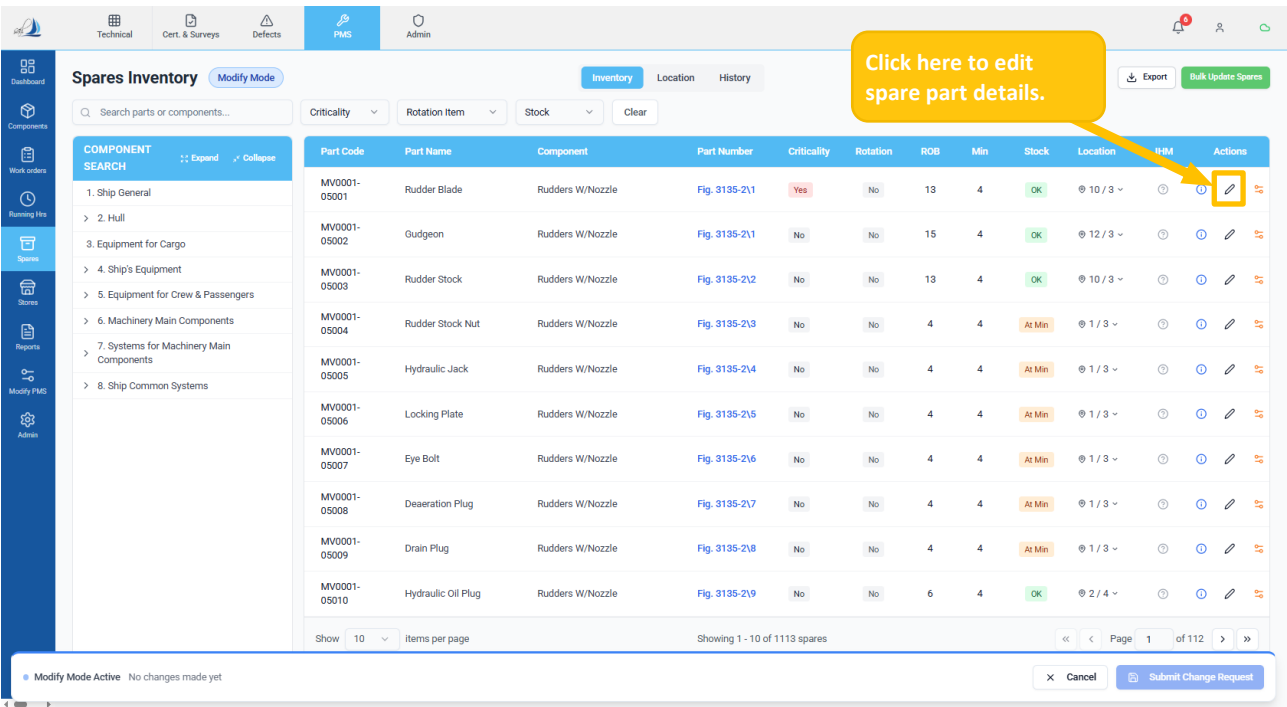

Figure 77
- The screen below appears after clicking the 'Spares' card. (Ref Figure 77)
- Click the 'Edit' icon to access the selected spare record. (Ref Figure 77)